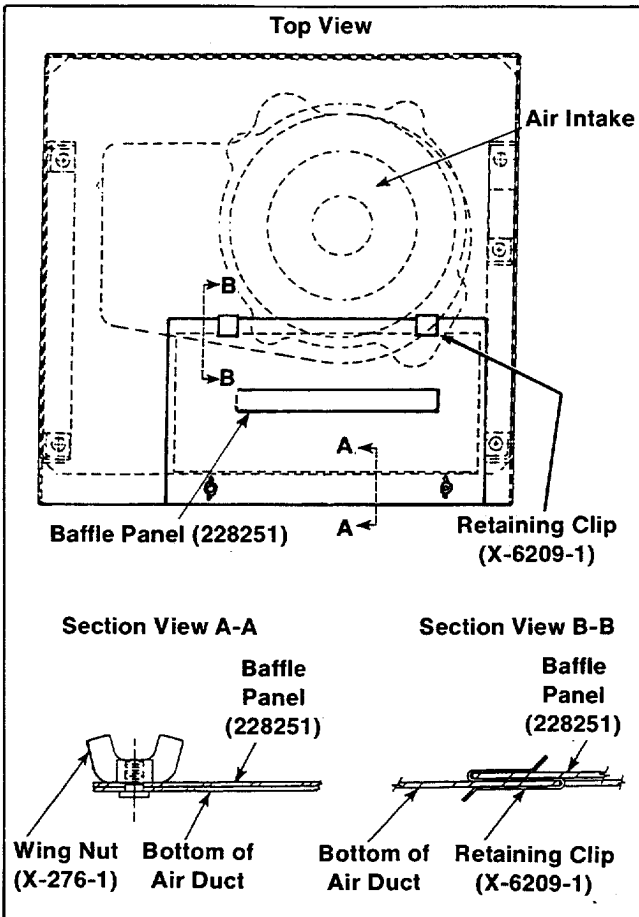

Figure 3. Installing Baffle Panel
4. Slide the two retaining clips (X-6209-1) into position at rear edge of rectangular opening in air duct. See Figure 3 for placement of retaining clips.
retaining clips previously installed. Align hole in base of baffle panel with weld screw on bottom of air duct. Secure with wing nut (X-276-1). See Figure 3. The baffle panel can be removed to service the engine air cleaner.